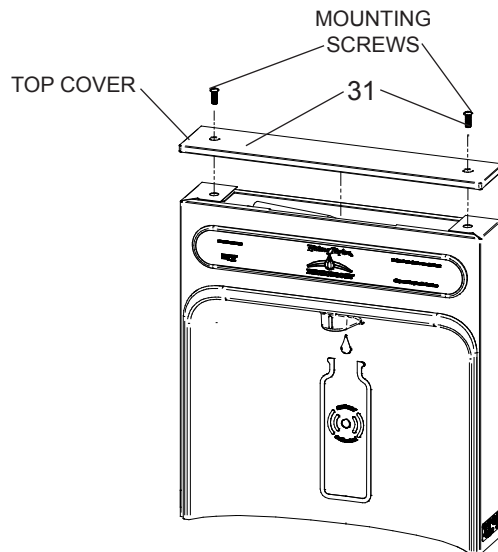
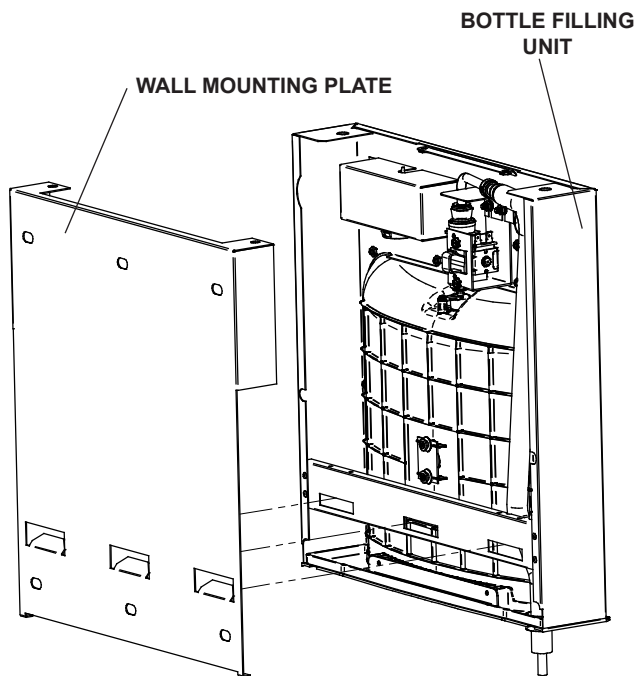

Fig. 8
Fig. 11
- 1) **Remove two (2) mounting screws** with 5/32" Allen wrench holding top cover to Bottle Filler (See Fig. 8). Remove top cover. Note do not discard mounting screws, they will be needed to reinstall top cover.
- 8) **With the power cord and waterline through hole** on top of water cooler place Bottle Filler on the three (3) angled tabs protruding from the wall mounting plate installed on wall. Make sure round boss in gasket fits in hole of basin. (See Fig. 11).
- 9) **Once Bottle Filler is installed on wall plate tabs,** water line and power cord are installed properly, push top of Bottle Filler toward wall and line up top cover two (2) holes.
- 10) **Reinstall Top Cover on Bottle Filler** (See Fig. 8) with two mounting screws from step 1 above. Caution, do not over tighten screws.